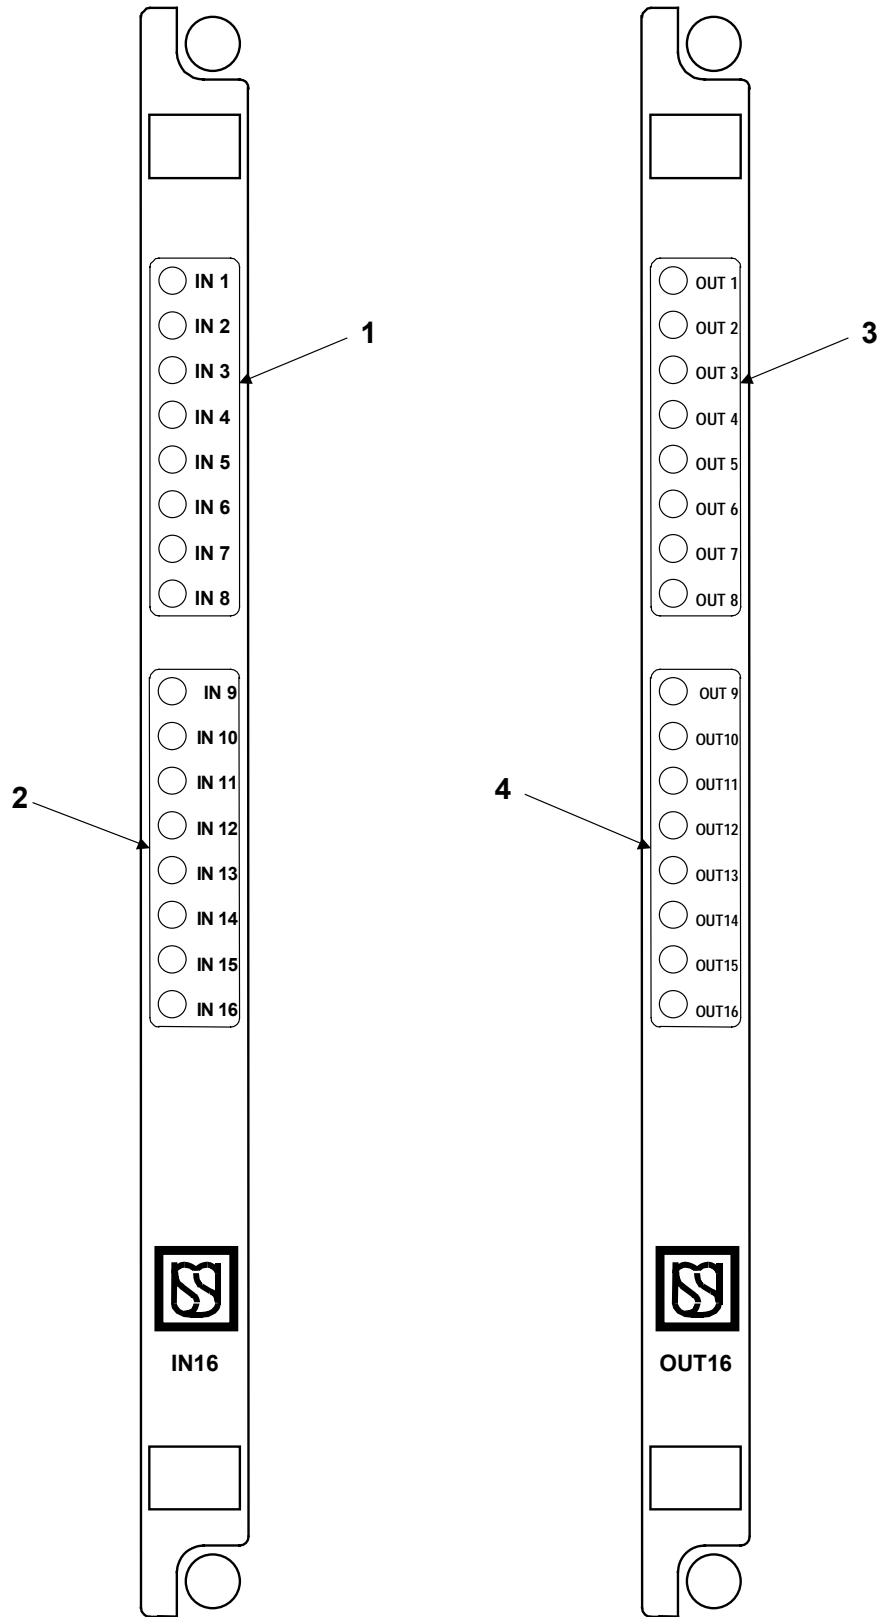

Figure 2-2. Vital Input and Standard Vital Output PCBs - Front Panel Layouts
**2.2 VITAL INPUT PRINTED CIRCUIT BOARD (Figure 2-2)**
**2.3 STANDARD VITAL OUTPUT PRINTED CIRCUIT BOARDS (Figure 2-2)**